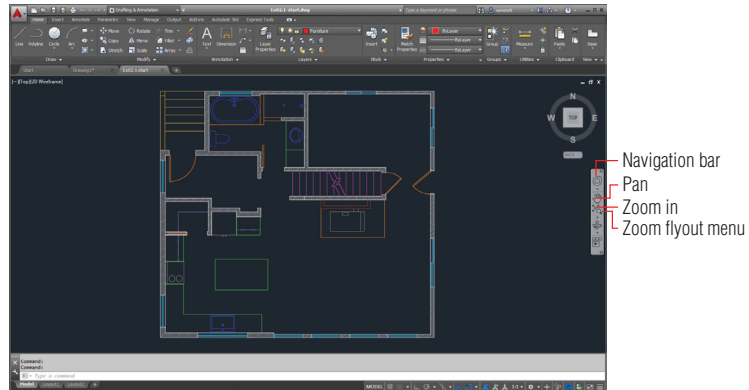

FIGURE 2.1 House sample file
Begin by opening the file `Ex02.1-start.dwg` (see Figure 2.1), which is available for download from the book's web page at www.sybex.com/go/autocad2018essentials.
1. Select the Drafting & Annotation workspace. If you don't see the Navigation bar, type `NAVBARDISPLAY` and press Enter. Type 1 and press Enter. The Navigation bar appears on the right side of the user interface (see Figure 2.1).